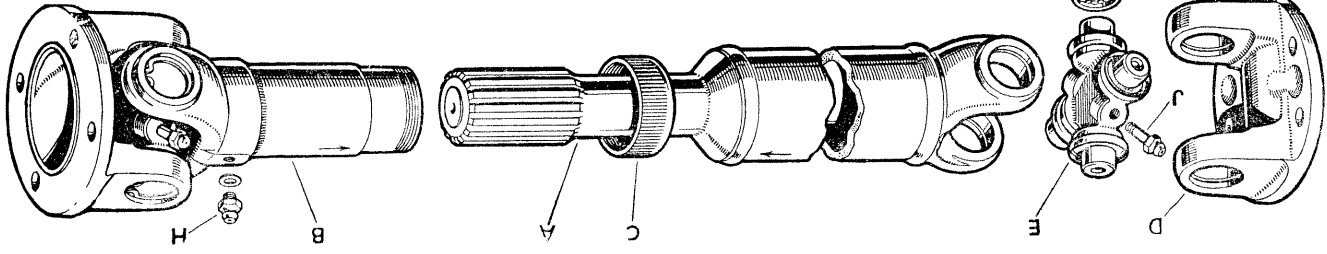

Fig. D-1—Construction of propeller shaft
5. Slide the rubber grommet and hose clips on to the shaft; liberally smear the splines of the sliding joint and splined shaft with grease and replace the joint on the shaft, making sure that the arrows marked on the splined sleeve yoke and shaft are in line (Fig. D-1).